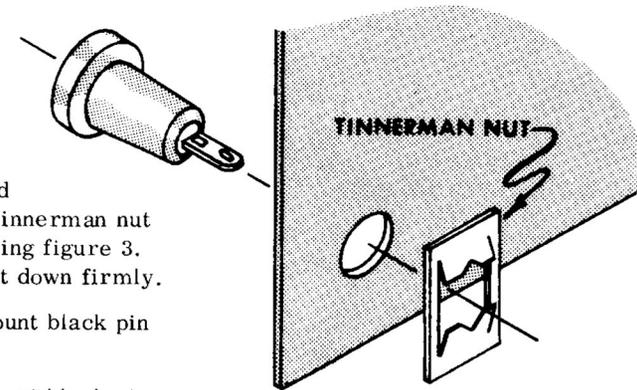

Figure 3 - Tinnerman nut mounting detail.
- ( ) Place a black pin jack J5 in the hole provided as shown in figure 4 and fasten in place with a Tinnerman nut as shown in detail drawing figure 3. Press the tinnerman nut down firmly.